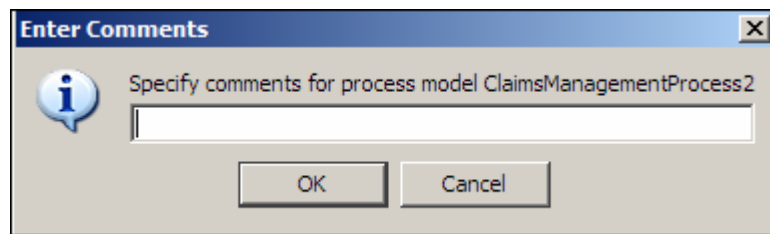

Figure 7.19: Enter Comments (Process Model)
- Click **File** menu and then select **Save Process Model to Server**, to save the process model on the Adeptia Suite. This displays a screen confirming that the process model has been created successfully. If the comments property is enabled, then clicking **Save Process Model to Server** will display a screen where you need to enter comments related to creating the process model (see Figure 7.19).